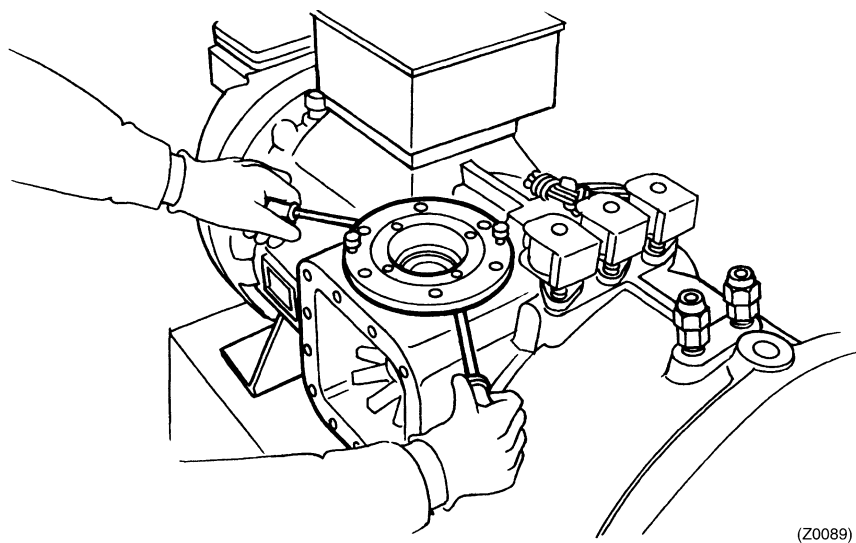

Fig. 4-8 Removing lower bearing holder
(4) Removing the lower bearing holder (upward and downward units)
- ① In the guide bolt hole, thread the bolt that was used for the lower bearing holder mounting and lift the lower bearing holder from the casing.
- ② Remove the shims inserted between the lower bearing holder and casing. (Do not lose the shims.)
- ③ The lower bearing holder and the casing are sealed with an O-ring. Therefore, the lower bearing holder is hard to be removed from the casing. To separate the lower bearing holder from the casing, insert two flat-blade screwdrivers or the like under the flanged part symmetrically as shown in Fig. 4-8 and then slowly twist the screwdrivers, or tighten the burst bolt with pad metal put to the burst bolt.